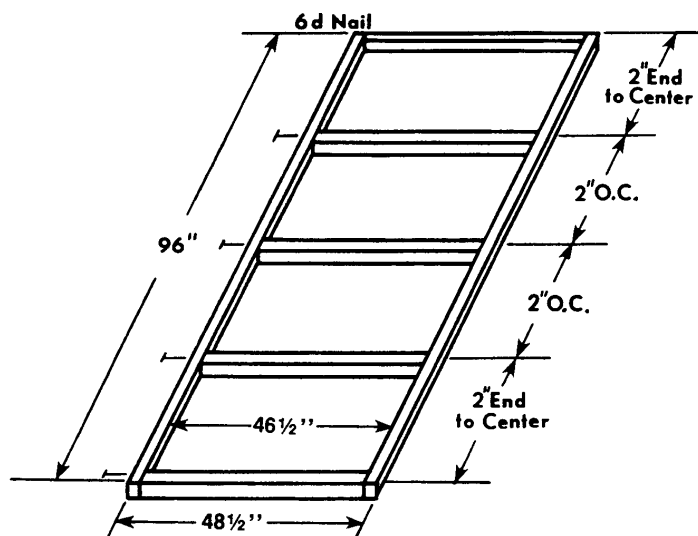

FIGURE 4 — ABSORBER SUPPORT FRAME
10. Assemble the absorber support frame with 6d nails using the 3/8 inch wide board strips (Figure 4). The 96 inch pieces are used on the